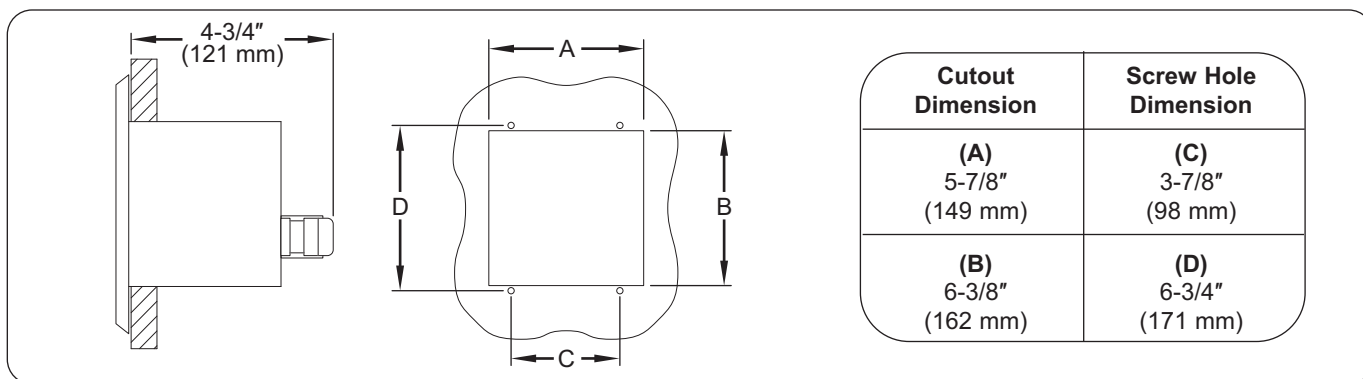

Figure 10. Remote Mounted Control Panel Installation Dimensions
1. Prepare cutout and pre-drill screw holes (see Figure 10).